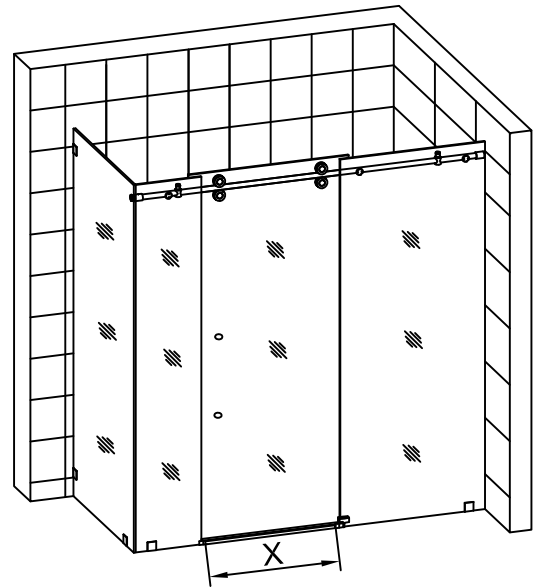

Fig.36
Measure the distance between the Small Fixed glass (20) and the Large Fixed Glass (3). See Fig.36 for details.